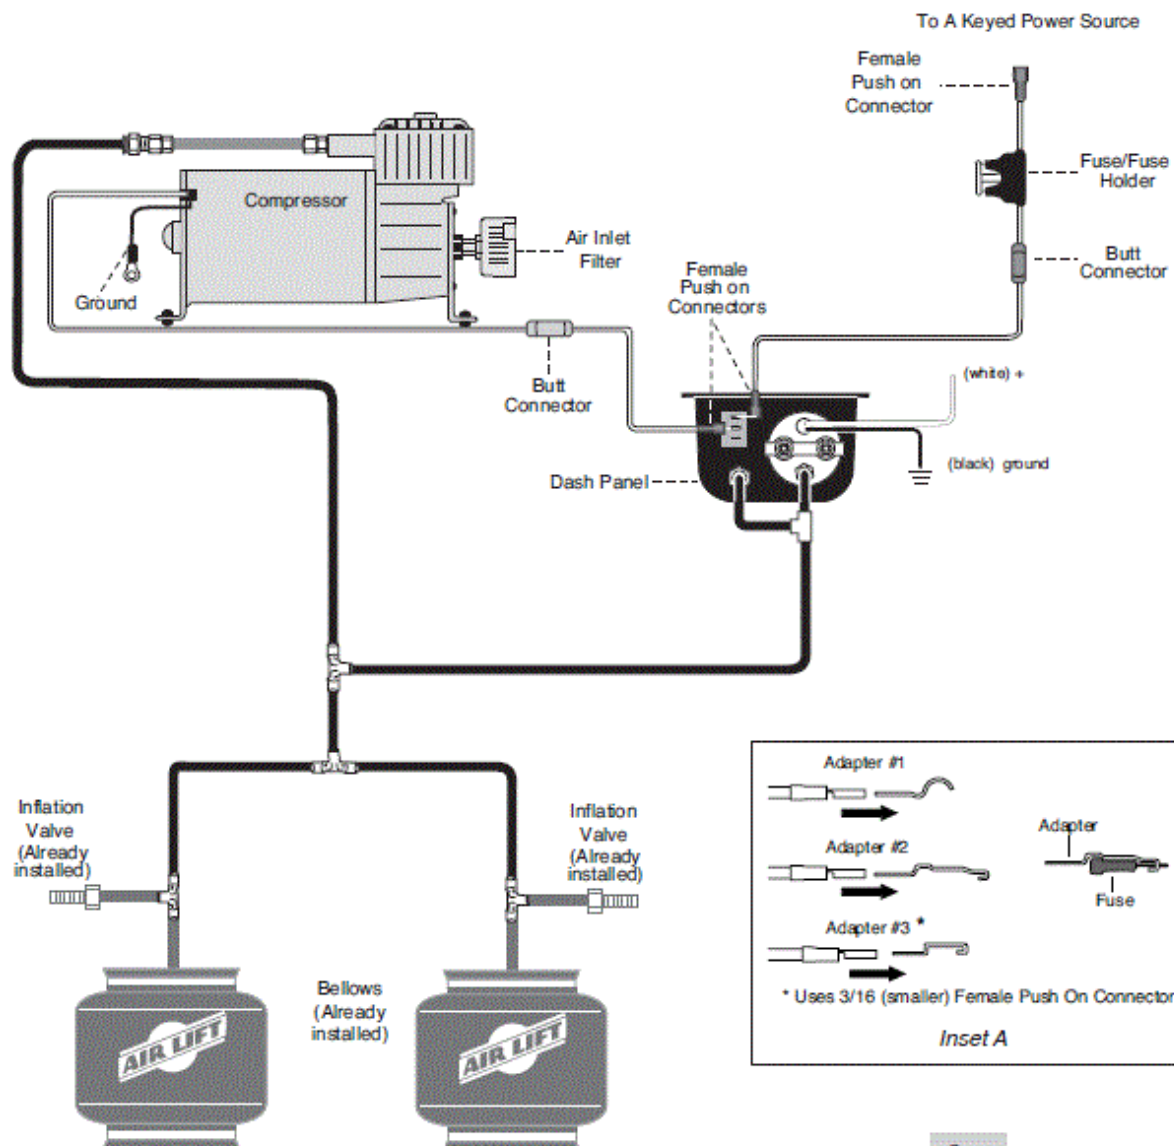

fig. 1
3. Connect the (red) wire from the panel to the (red) wire on the compressor using a blue butt connector (Figure 1). Connect the other end of the wire to the push switch using the blue 3/16 female push-on connector. With your thumb against the front side of the switch, push the connector onto one of the terminals on the back of the ON/OFF switch on the gauge panel
5. Determine the length of the supplied (red) wire required to connect the dash panel to the fuse assembly. Cut and crimp the wire into the butt connector (Fig. 1). Connect the other end of the wire to the push switch using the blue 3/16" female push-on connector. With your thumb against the front side of the switch, push the connector onto the remaining terminal on the back of the ON/OFF switch on the gauge panel.
4. Determine the location of the third tee. Cut the air line between the first two tees and install a third (Figs. 1 & 5).
7. Determine the closest and easiest area to connect the gauge panel to the air line between the compressor and air springs. Measure the distance between these two points and cut the air line and install the last tee (Figs. 1 & 5).